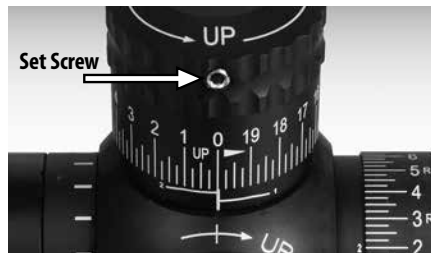

Figure 1
- A. Remove elevation turret cap by loosening the two set screws 1½ to 2 turns. Take care not to remove the screws entirely or lose them. See Figure 1.